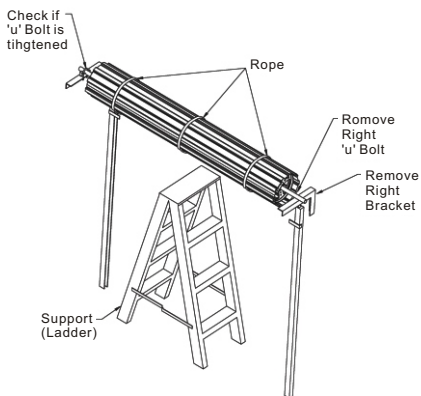

Fig2
- c. Support the right hand end of the door with a suitable prop, e.g. step ladder and soft padding to protect the door surface. (Fig. 2)